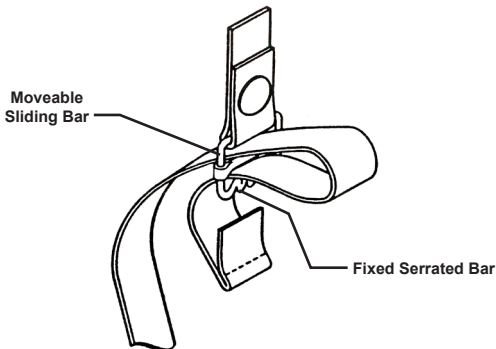

Figure 7-2. Lacing the Sliding Bar Buckles
1. Thread the strap from the inside of the buckle over the moveable sliding bar (see Figure 7-2). Thread the strap back through the buckle but this time under the sliding bar and over the serrated part of the buckle.